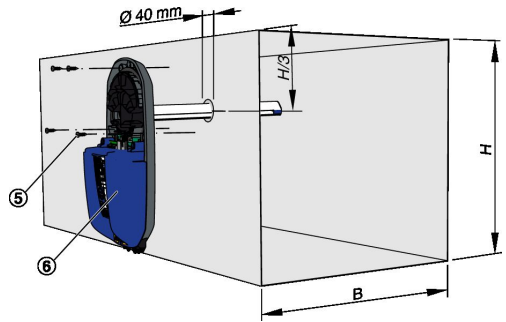

Fig. 12: Installation RM-O-M in horizontal air duct
6. ▶ Attach the smoke release device (Fig. 12/6) to the air duct with screws (Fig. 12/5).
4. ▶ Attach the smoke detector (Fig. 12/2) to the air duct with screws (Fig. 12/1).